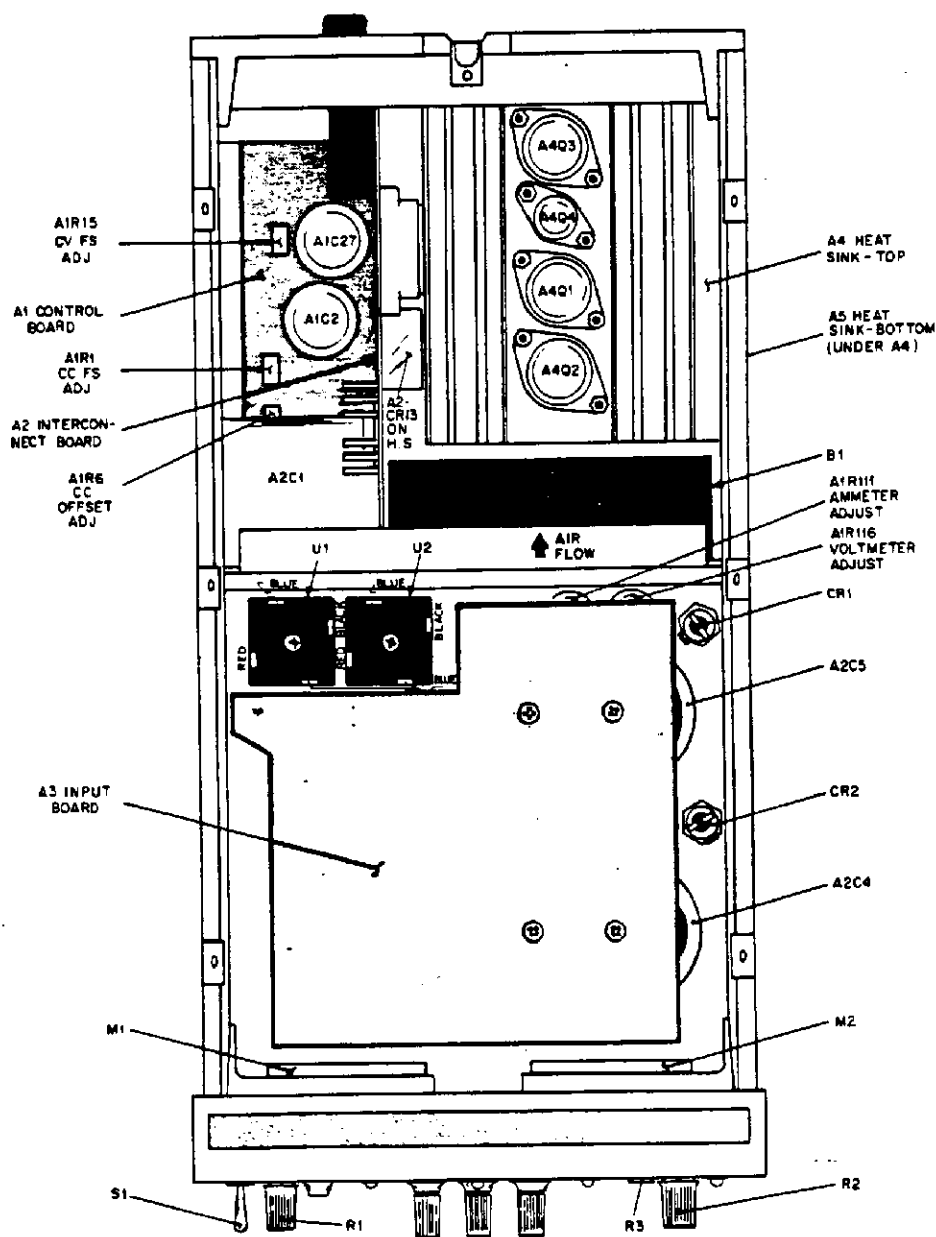

Figure 7-1. Overall View, Cover Removed
a. Component location diagrams (Figures 7-1 through 7-7), showing the physical location and reference